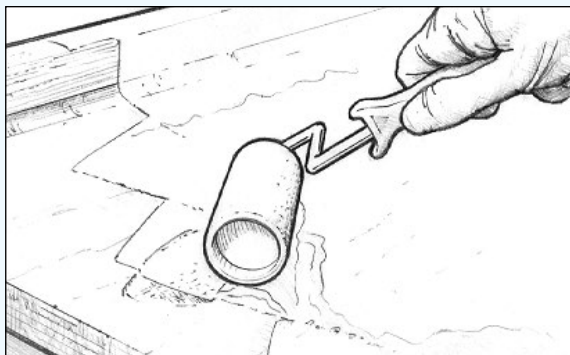

Figure 21 Wet out porous surfaces before applying fairing compound.
2. Wet out porous surfaces with resin/hardener mix (*Figure 21*).